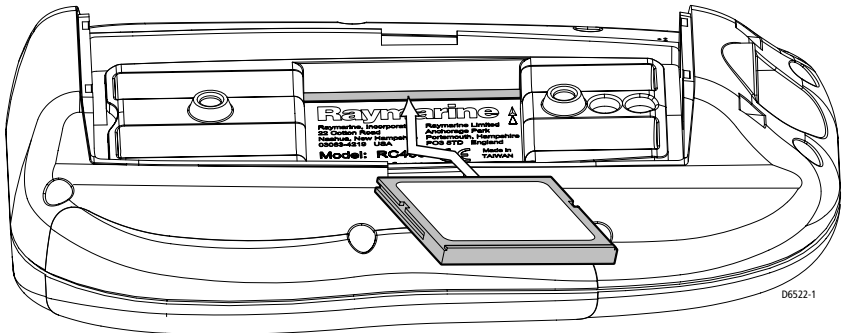

Figure 2-4: Inserting the Gold Chart Card
- ▶ To insert a Gold Chart card, refer to *Figure 2-4* :
3. Insert the card as shown in *Figure 2-4* with the smooth edge of the card outermost and the card label up.